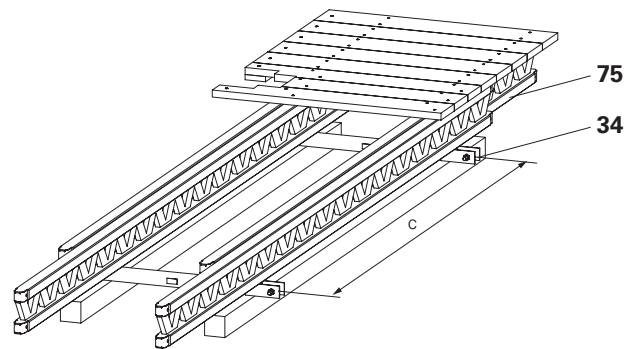

Fig. C4.01
1. Measure and align the finishing platform beam (**34**) on squared timbers based on the project-specific climbing rail spacing (c). (Fig. C4.01)